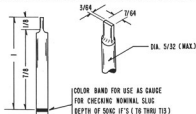

Fig. 7. IF Alignment Tool
3. Non-metallic alignment tool for IF alignment with dimensions shown in Fig. 7.